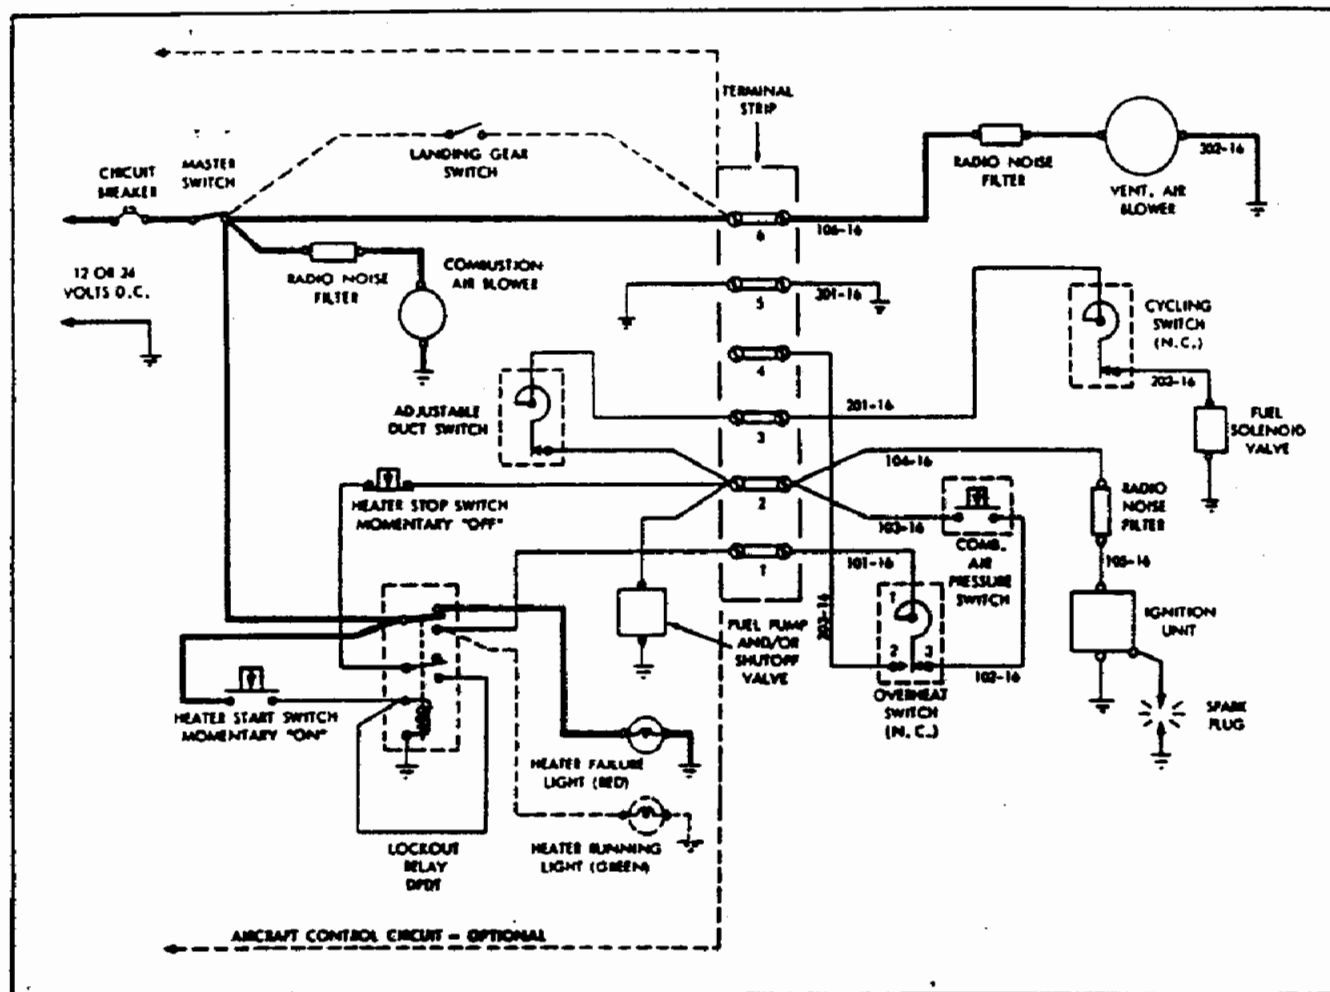

FIGURE 3-6 Primary Power Circuit (Typical)
START SWITCH" energized. (See Figures 3-6 through 3-8.)
The schematic wiring diagrams (Figures 3-6 through 3-8) show, in addition to the heater circuitry, a suggested aircraft control circuit. For the purposes of this manual, the circuitry shown in these illustrations will be utilized to describe electrical checks. However, the aircraft control circuit can vary in different installations and also the heater circuit.
a. With the "MASTER" switch energized, voltage (24-volts nominal) should be present at the following locations (See Figure 3-6):
- (1) Terminal No. 6 on the heater terminal strip.
- (2) From terminal No. 6 of the heater terminal strip to the ventilating air motor.
- (3) The combustion air blower will be energized.
- (4) To the common connection of the DPDT relay in the suggested aircraft control circuit.
- (5) To one side of the heater start switch.
most convenient location. (See Figure 3-6.)